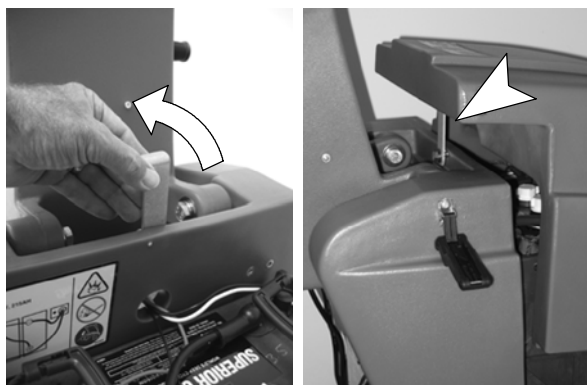

FIG. 23
- Flip up hood support stand and rest hood on stand to promote ventilation (Figure 23).